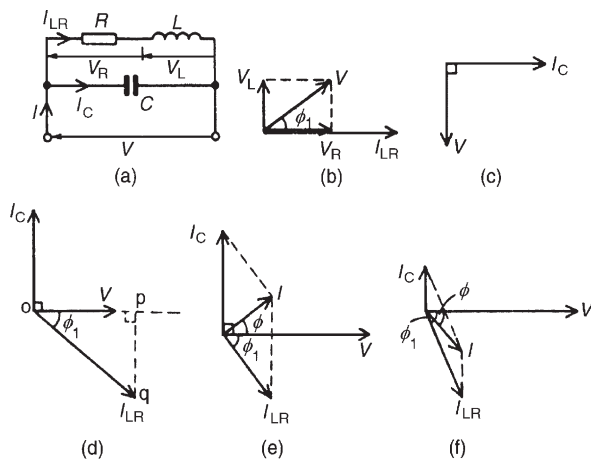

Figure 16.5
In the two-branch circuit containing capacitance C in parallel with inductance L and resistance R in series (such as a coil) shown in Fig. 16.5(a), the phasor diagram for the LR branch alone is shown in Fig. 16.5(b) and the phasor diagram for the C branch is shown alone in Fig. 16.5(c). Rotating each and superimposing on one another gives the complete phasor diagram shown in Fig. 16.5(d).
The current I_{LR} of Fig. 16.5(d) may be resolved into horizontal and vertical components. The horizontal component, shown as op is $I_{LR} \cos \phi_1$ and the vertical component, shown as pq is $I_{LR} \sin \phi_1$. There are three possible conditions for this circuit:
- (i) $I_C > I_{LR} \sin \phi_1$ (giving a supply current I leading V by angle ϕ —as shown in Fig. 16.5(e))
- (ii) $I_{LR} \sin \phi > I_C$ (giving I lagging V by angle ϕ —as shown in Fig. 16.5(f))
There are two methods of finding the phasor sum of currents I_{LR} and I_C in Fig. 16.5(e) and (f). These are: (i) by a scaled phasor diagram, or (ii) by resolving each current into their '**in-phase**' (i.e. horizontal) and '**quadrature**' (i.e. vertical) **components**, as demonstrated in Problems 6 and 7. With reference to the phasor diagrams of Fig. 16.5:
Resonance occurs in the two-branch network containing capacitance C in parallel with inductance L and resistance R in series (see Fig. 16.5(a)) when the quadrature (i.e. vertical) component of current I_{LR} is equal to I_C . At this condition the supply current I is in-phase with the supply voltage V .